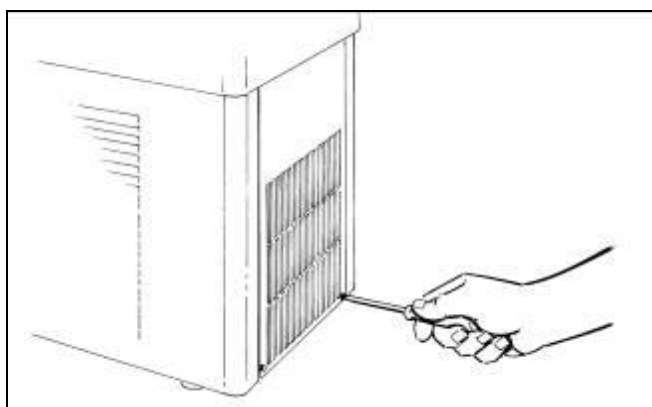

Fig. 27
- Remove the rear panel by unscrewing the two bolts fastening it (fig.27);